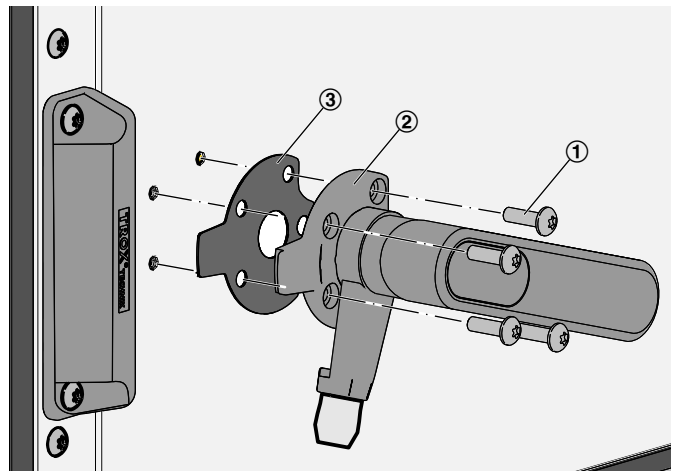

Fig. 43: Adjusting contact pressure of the inspection access door
8. ▶ Loosen screws (Fig. 43 /1) of the locking mechanism (Fig. 43 /2) and insert the compensating plate (Fig. 43 /3). Install by following these steps in reverse order and tighten the screws.